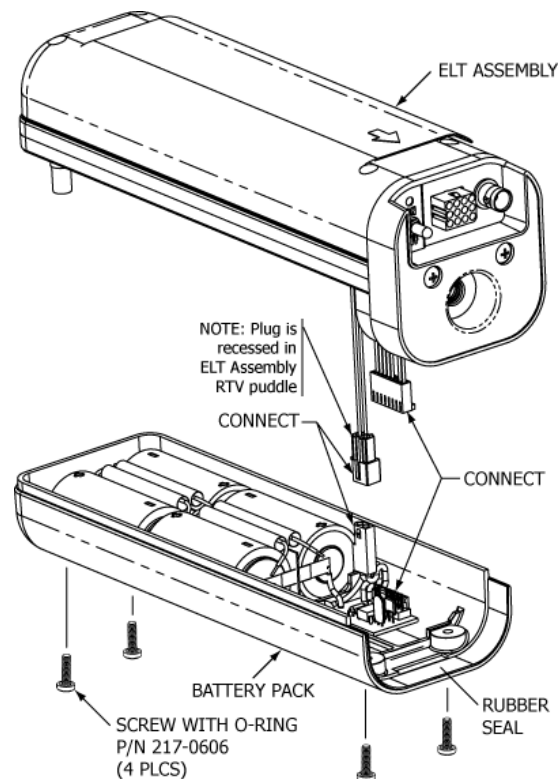

Figure 23 Battery Pack Installation
- 2) See Figure 23 Battery Pack Installation.